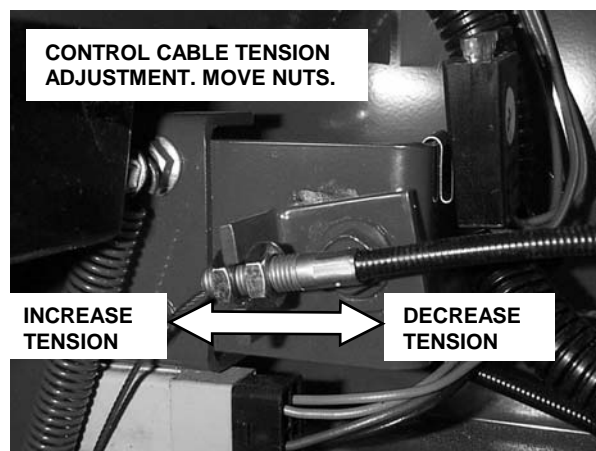

FIGURE 4.4
5. The threaded fitting on the end of the control cable provides fine tension adjustments. See Figure 4.4. Loosen jam nuts and turn nuts until spring extension falls in the range of 3/8" to 1/2". Tighten nuts securely. Move blade control lever to the OFF position. Install cover (refer to note below) and tighten screws securely.